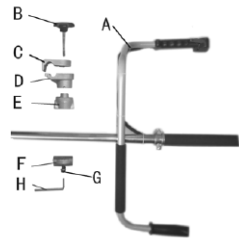

Fig. 1
1. To install handle onto unit, you will need the following components from your user kit: U1-type handle(A), fixing holder(D & E), clamp(C&F), screws(B&G) and screw driver. (Fig.1)